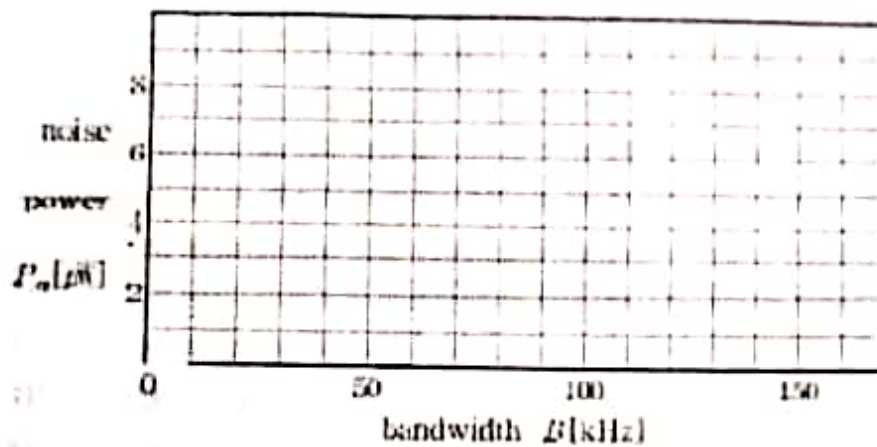

Figure 2-17. Relationship between noise power and bandwidth
- (8) Draw the relationship of noise power ($P_n [\mu\text{W}]$) against bandwidth $B [\text{kHz}]$ into figure 2-17